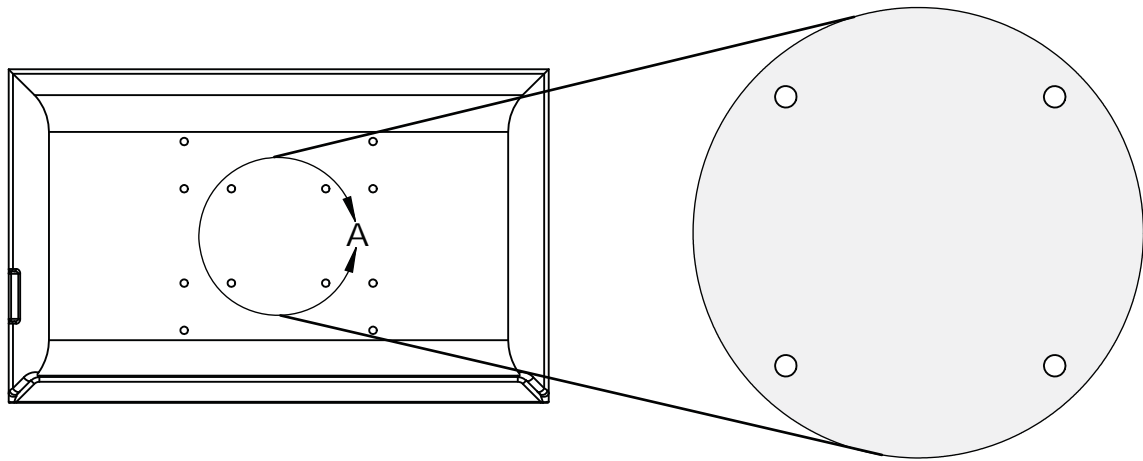

Figure 1: 100mm VESA pattern shown
3. On the reverse of the monitor, locate the VESA mounting pattern (fig. 1)